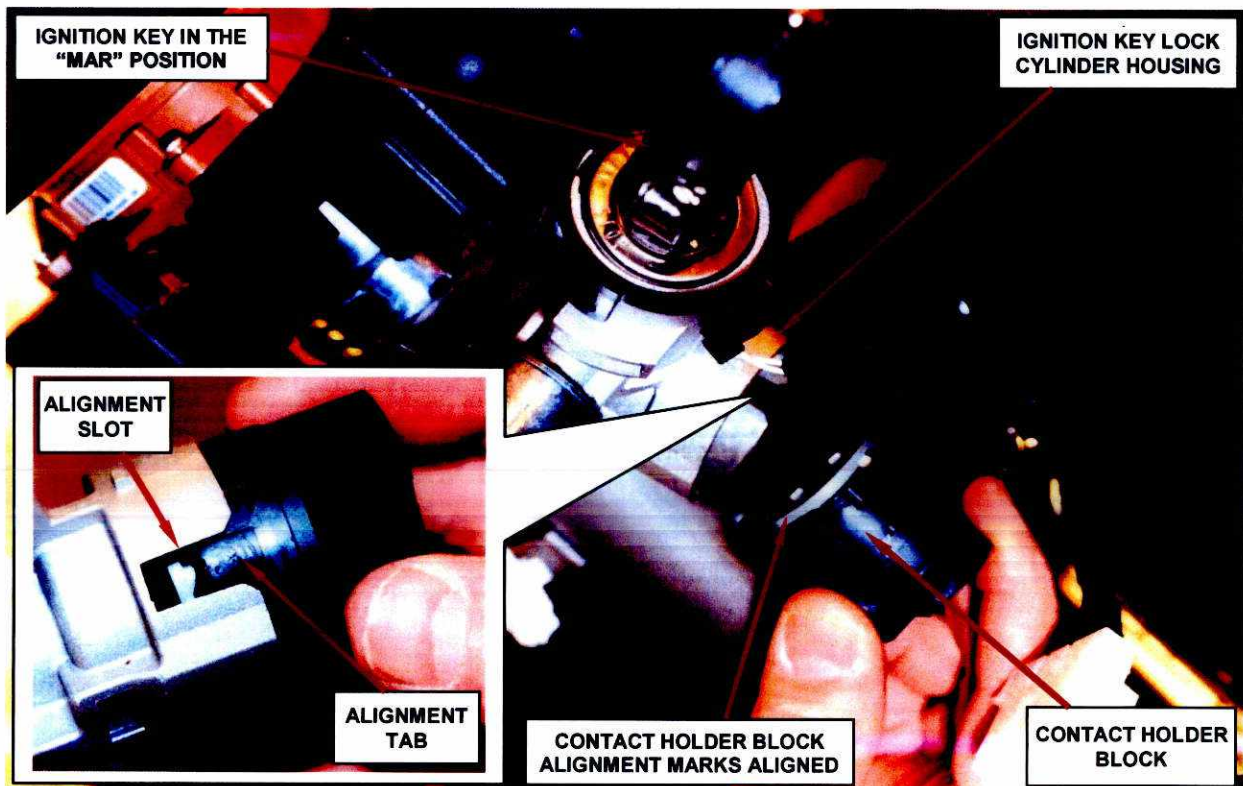

Figure 7 – Contact Holder Block Alignment Tab
13. With the ignition key in the “MAR” position and the contact holder block alignment marks aligned, insert the new contact holder block in the ignition switch housing. Be sure to align the contact holder block alignment tab so it aligns with the slot in the ignition switch housing (Figure 7).